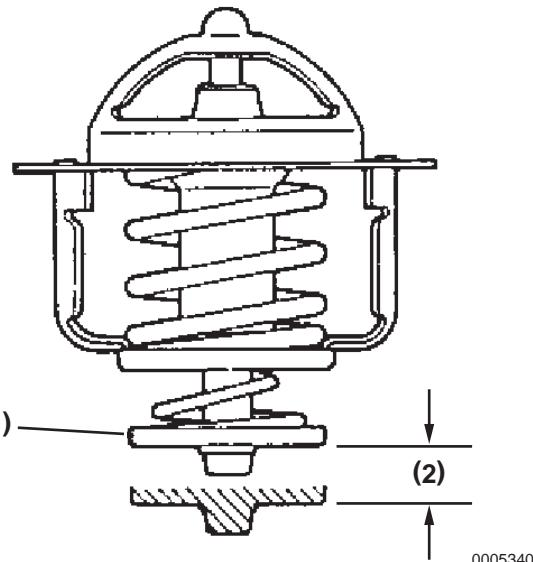

Figure 7-12
9. Check that the valve spring strongly presses the against the seat (**Figure 7-12, (1)**) when the thermostat is closed completely. If not, replace the thermostat.